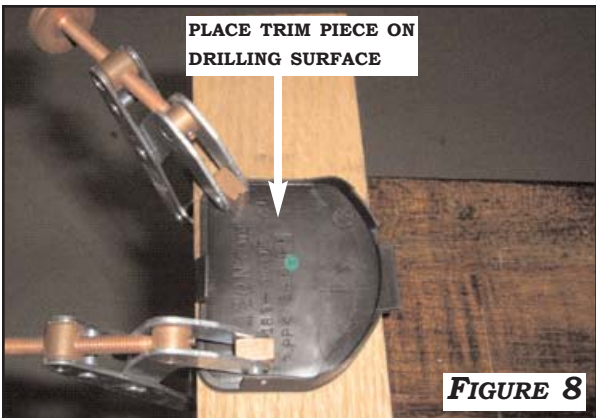

FIGURE 8
2. PLACE THE TRIM PANEL ON A DRILLING SURFACE AS SHOWN IN **FIGURE 8**. INSTALL THE TOP PLATE ONTO THE FIXTURE. USE A **1 1/2"** HOLE SAW TO CUT OUT THE HOLE LOCATION ON THE TRIM PANEL. **FIGURES 9 & 10**